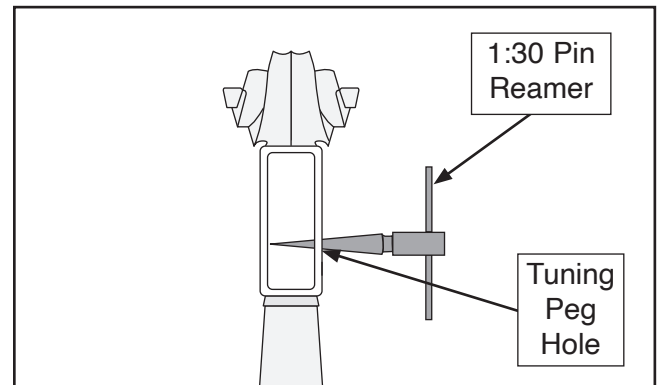

Figure 10. Reaming peg holes for proper tuning peg fit.
2. Place 1:30 pin hole reamer in E-string tuning peg hole and gently twist reamer clockwise, making one complete revolution (see **Figure 10**).